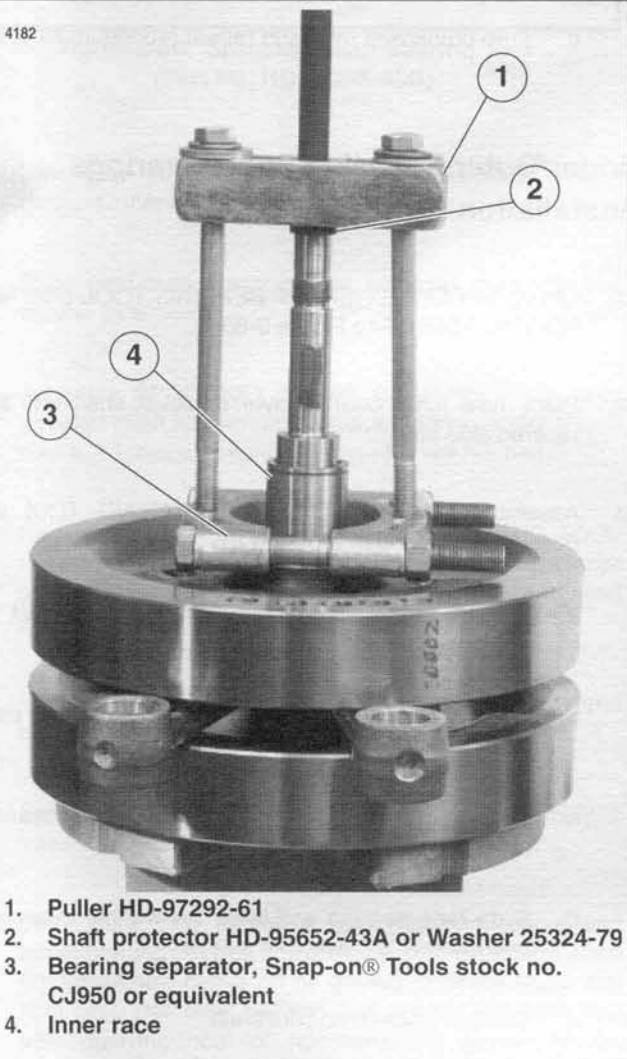

Figure 3-82. Pulling Pinion Shaft Inner Race
1. See Figure 3-82. Remove inner race (4) with tools shown. Apply heat to race to aid removal.